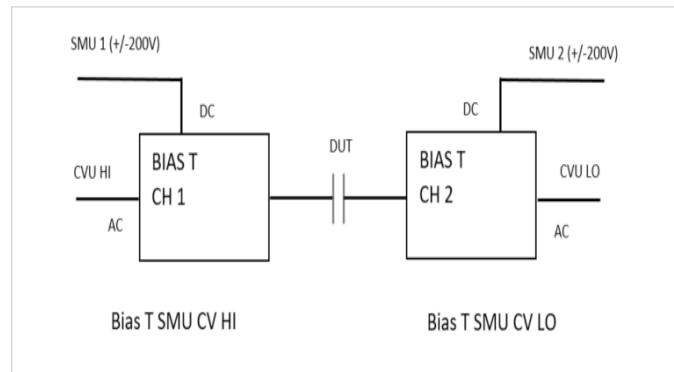
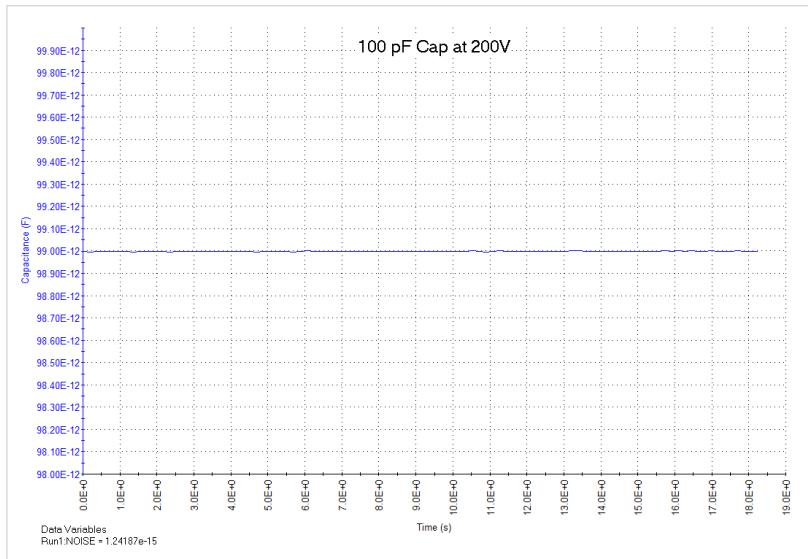

Figure 5: BiasT SMU CV HI or LO Channel Configuration
Figure 13: Capacitance vs. Time Measurements
of the 4200A-CVIV bias tee circuit. This mode is ideal for performing C-V measurements where a DC bias current of up to 1 A is required, such as when making C-V measurements on a semiconductor device in the on-state. On a two-terminal device, connect both CVU HI or LO and SMU to each output channel as shown in **Figure 5**.
- HVCV- Zener Test Module:** Figure 11 shows the user test module (UTM) GUI. Using the Clarius Software to Control High Voltage C-V Measurements. *hvcvlib* user library contains two modules, *SweepV* and *CvsT*, for controlling the high voltage C-V measurements. These modules can be used with either one or two bias tee configurations. Using one bias tee, the *SweepV* module allows the user to sweep a DC voltage across the DUT using the 4200-SMU and measure the capacitance using the 4210-CVU. If two bias tees are used with the *SweepV* module, then one SMU is used to sweep the DC voltage and the other SMU is used to apply an offset DC bias (as shown in Figure 5). The *CvsT* module provides capacitance measurements as a function of
Two tests exist in this project for testing capacitors: one applies a constant 200 V bias and the other sweeps the voltage from -200 V to 200 V. To perform these tests, the capacitor is connected to the test system using the bias tee modes as shown in **Figure 5**. High voltage capacitance vs. time measurements can be made using the *200vbias* test, which was created using the *CvsT* module. This module applies 200 V to a 100 pF capacitor, measures the capacitance as a function of time, and plots the data in the graph. The results are shown in **Figure 13**. This module can be used to determine how much settling time to use during an actual C-V sweep.